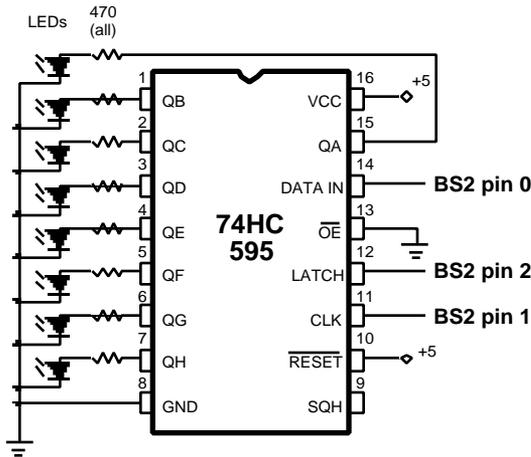

Figure 4. Schematic to accompany 74HC595.bs2.
**Shift-Register Output with Shiftout.** The most basic use for Shiftout is to add an output-only port based on a shift register/latch combination like the 74HC595 shown in figure 4. Listing 1 demonstrates how simple it is to send data to a device like this.